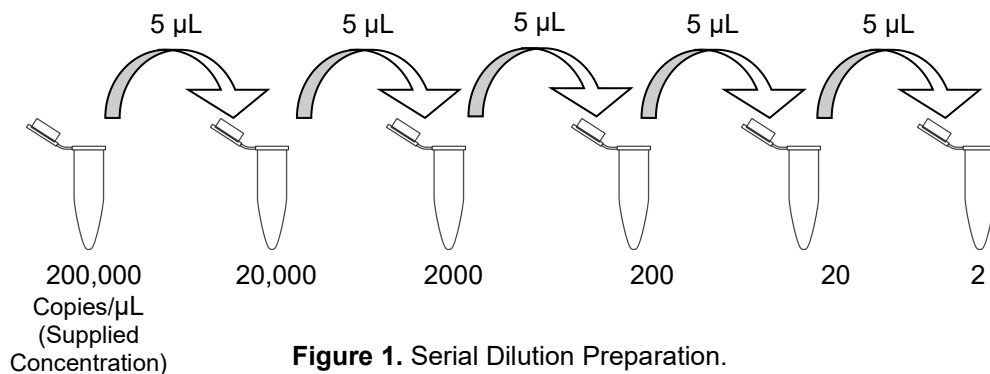

Figure 1. Serial Dilution Preparation.
- Use 5 μL of the Positive Control Standard supplied with the kit (200,000 copies/ μL) to prepare 5 serial dilutions as outlined in Figure 1.